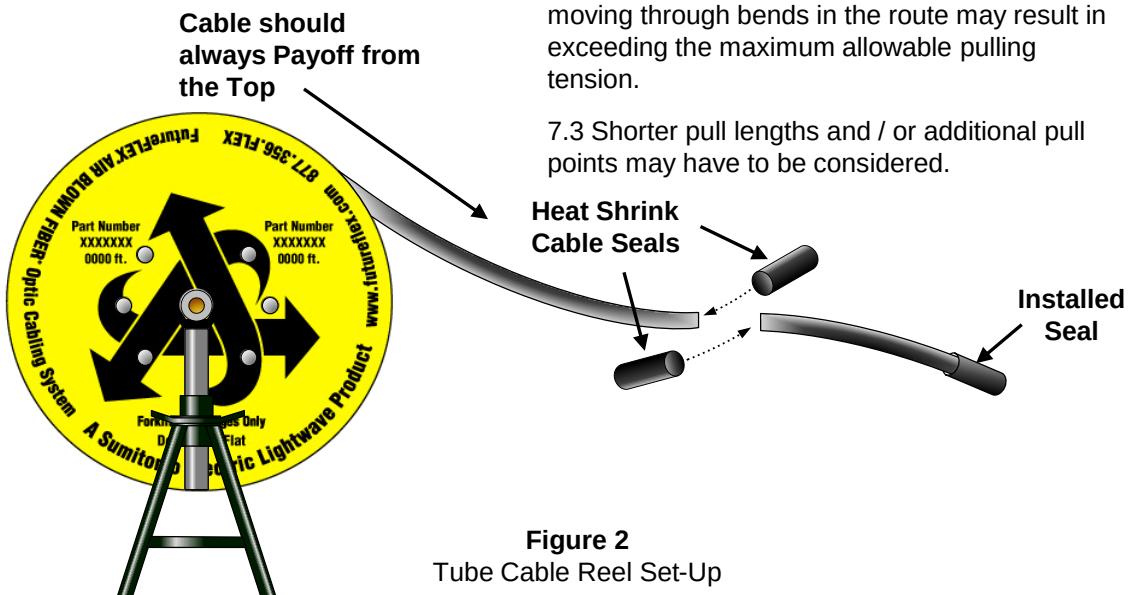

Figure 2
5.10 Set reels up so Tube Cables payoff from the top of the reel during installation. **See Fig. 2.**